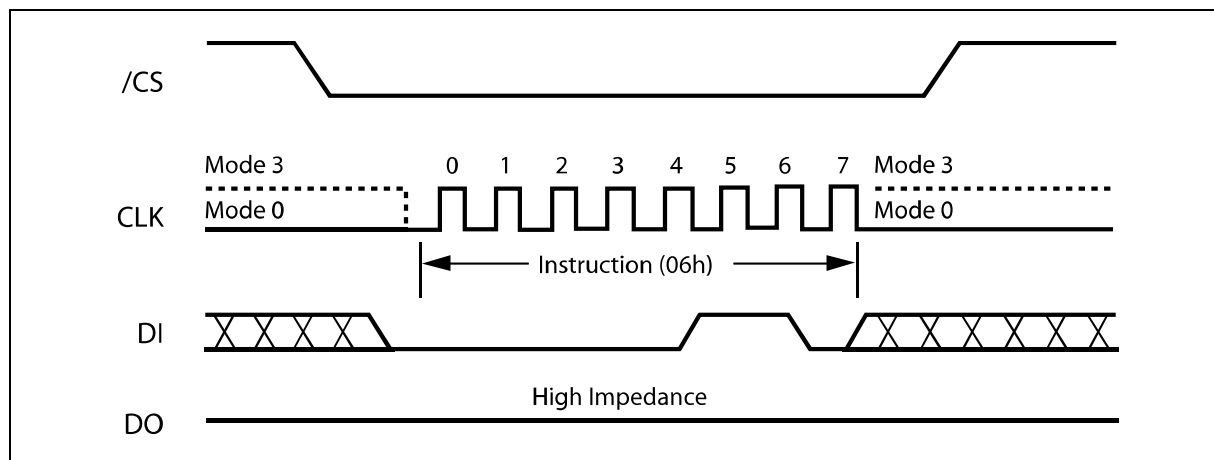

Figure 4. Write Enable Instruction Sequence Diagram
Instructions vary in length from a single byte to several bytes and may be followed by address bytes, data bytes, dummy bytes (don't care), and in some cases, a combination. Instructions are completed with the rising edge of edge /CS. Clock relative timing diagrams for each instruction are included in figures 4 through 37. All read instructions can be completed after any clocked bit. However, all instructions that Write, Program or Erase must complete on a byte boundary (/CS driven high after a full 8-bits have been clocked) otherwise the instruction will be ignored. This feature further protects the device from inadvertent writes. Additionally, while the memory is being programmed or erased, or when the Status Register is being written, all instructions except for Read Status Register will be ignored until the program or erase cycle has completed.
The Write Enable instruction (Figure 4) sets the Write Enable Latch (WEL) bit in the Status Register to a 1. The WEL bit must be set prior to every Page Program, Quad Page Program, Sector Erase, Block Erase, Chip Erase, Write Status Register and Erase/Program Security Registers instruction. The Write Enable instruction is entered by driving /CS low, shifting the instruction code “06h” into the Data Input (DI) pin on the rising edge of CLK, and then driving /CS high.